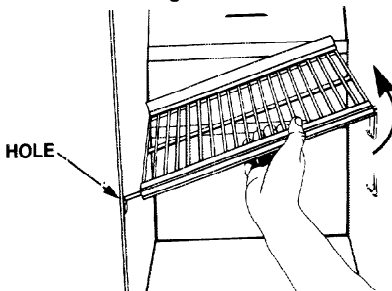

FIGURE 75
2. Pull shelf sideways and up until shelf rods come out of holes in the left wall. See Figure 75.